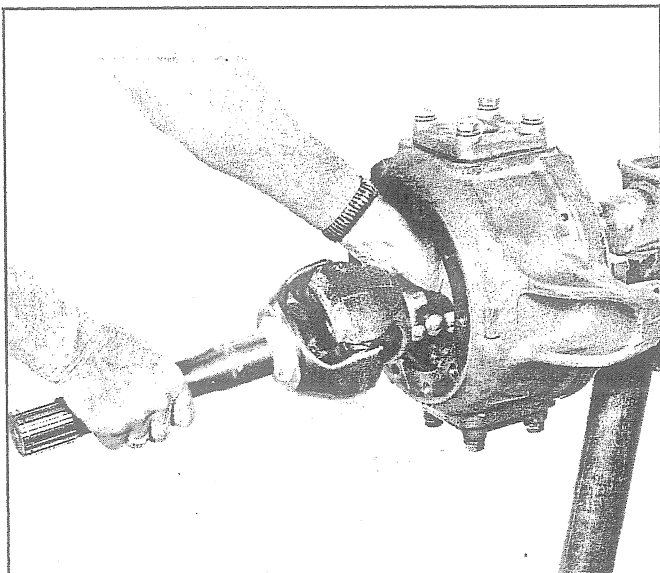

Fig. 96 - Installing Axle Shaft
15. Carefully slide axle shaft and "U-joint assembly into housing as shown in Fig. 96. Do not damage oil seal in axle housing. Pack "U"-joint and outer end of axle housing with a good grade of lithium soap grease, No. 1 consistency.